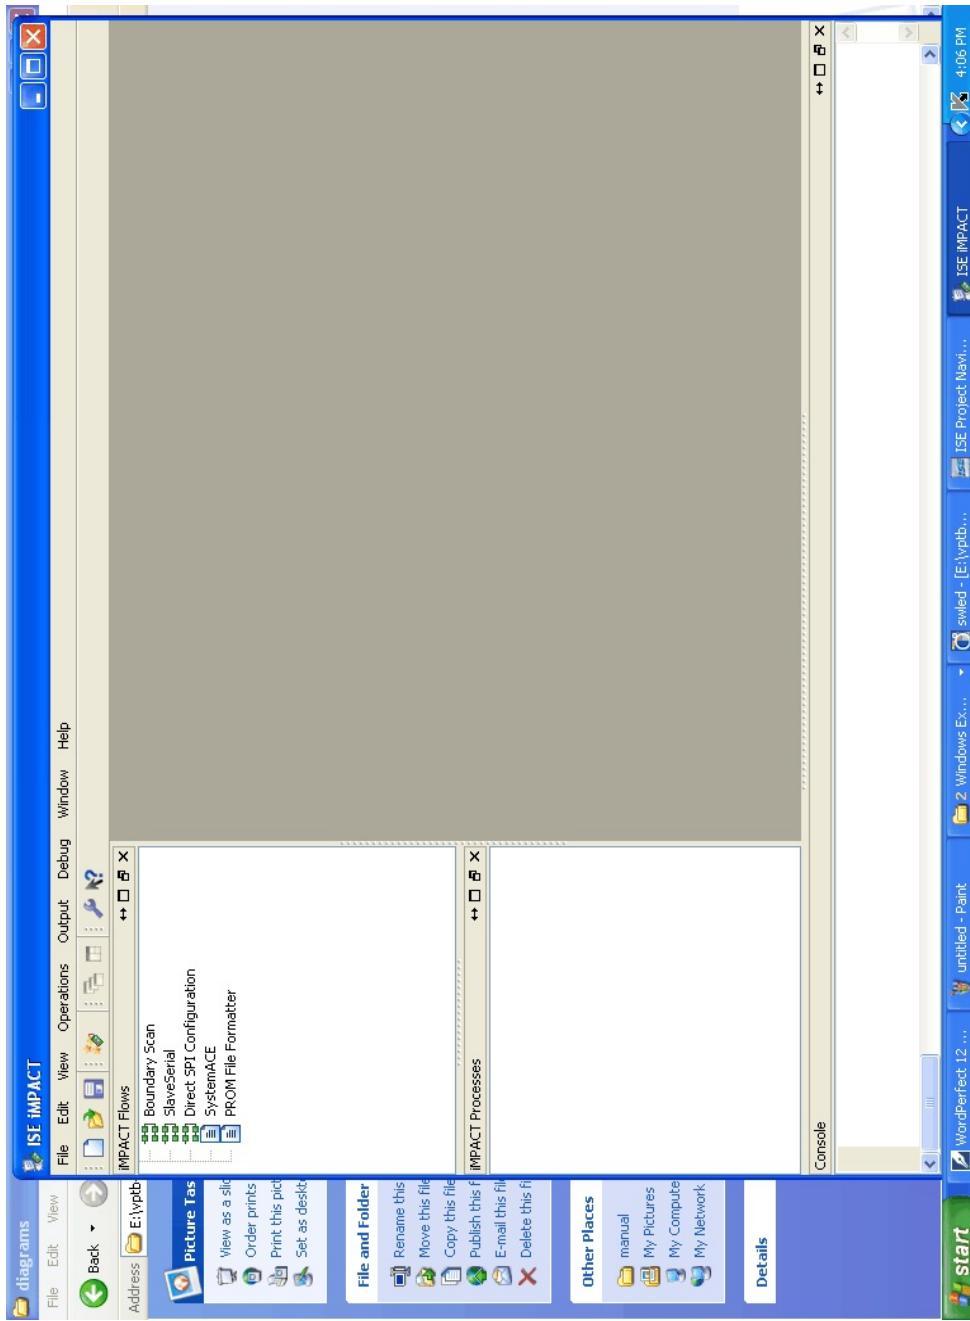
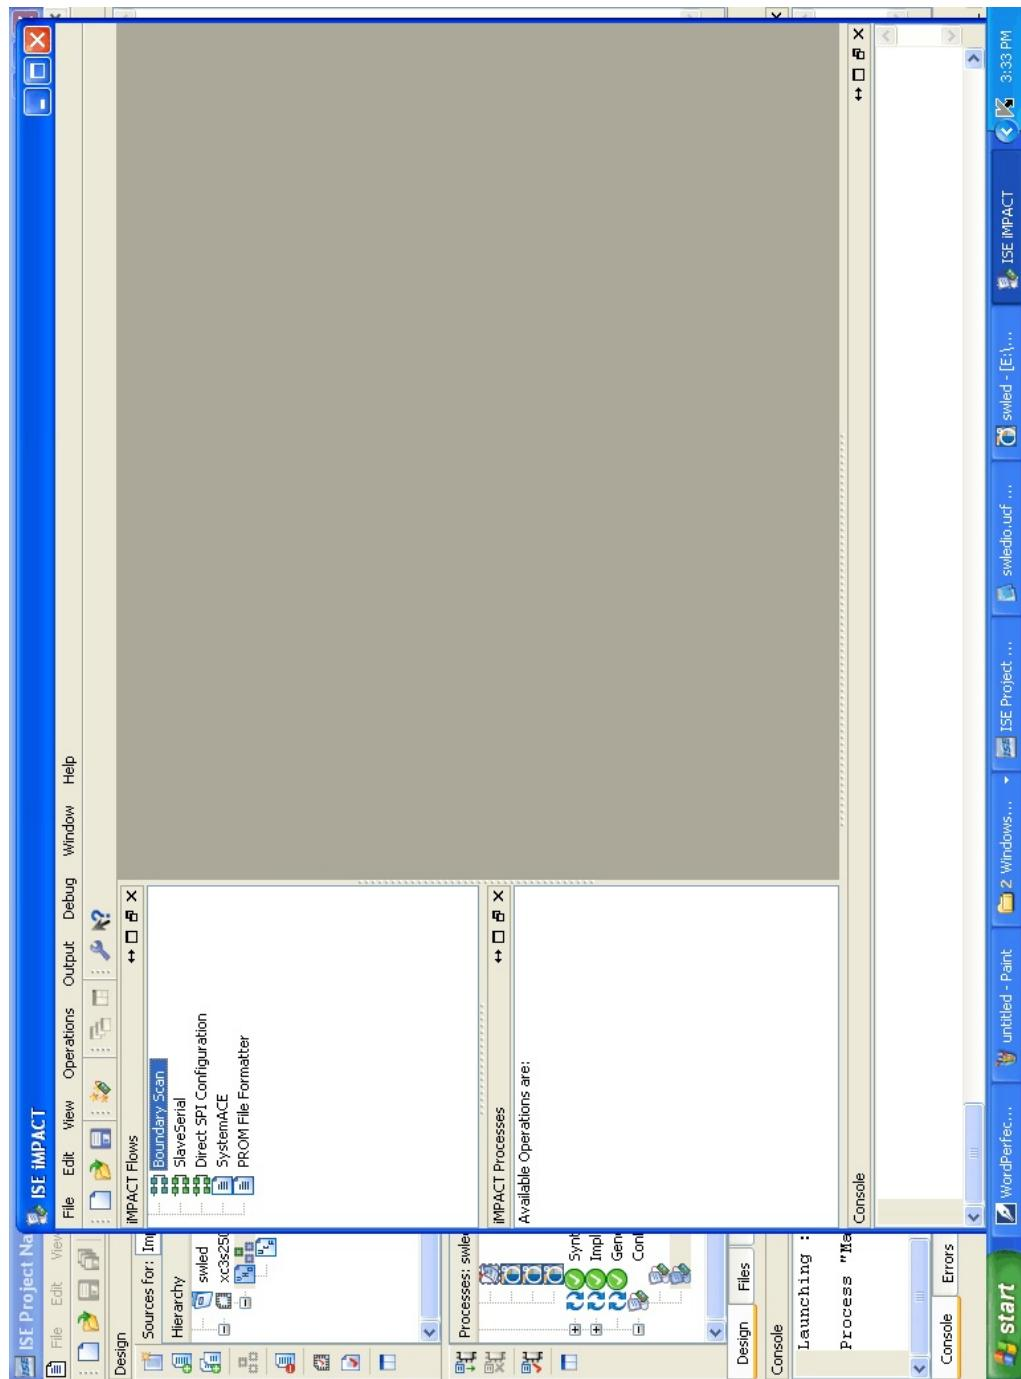
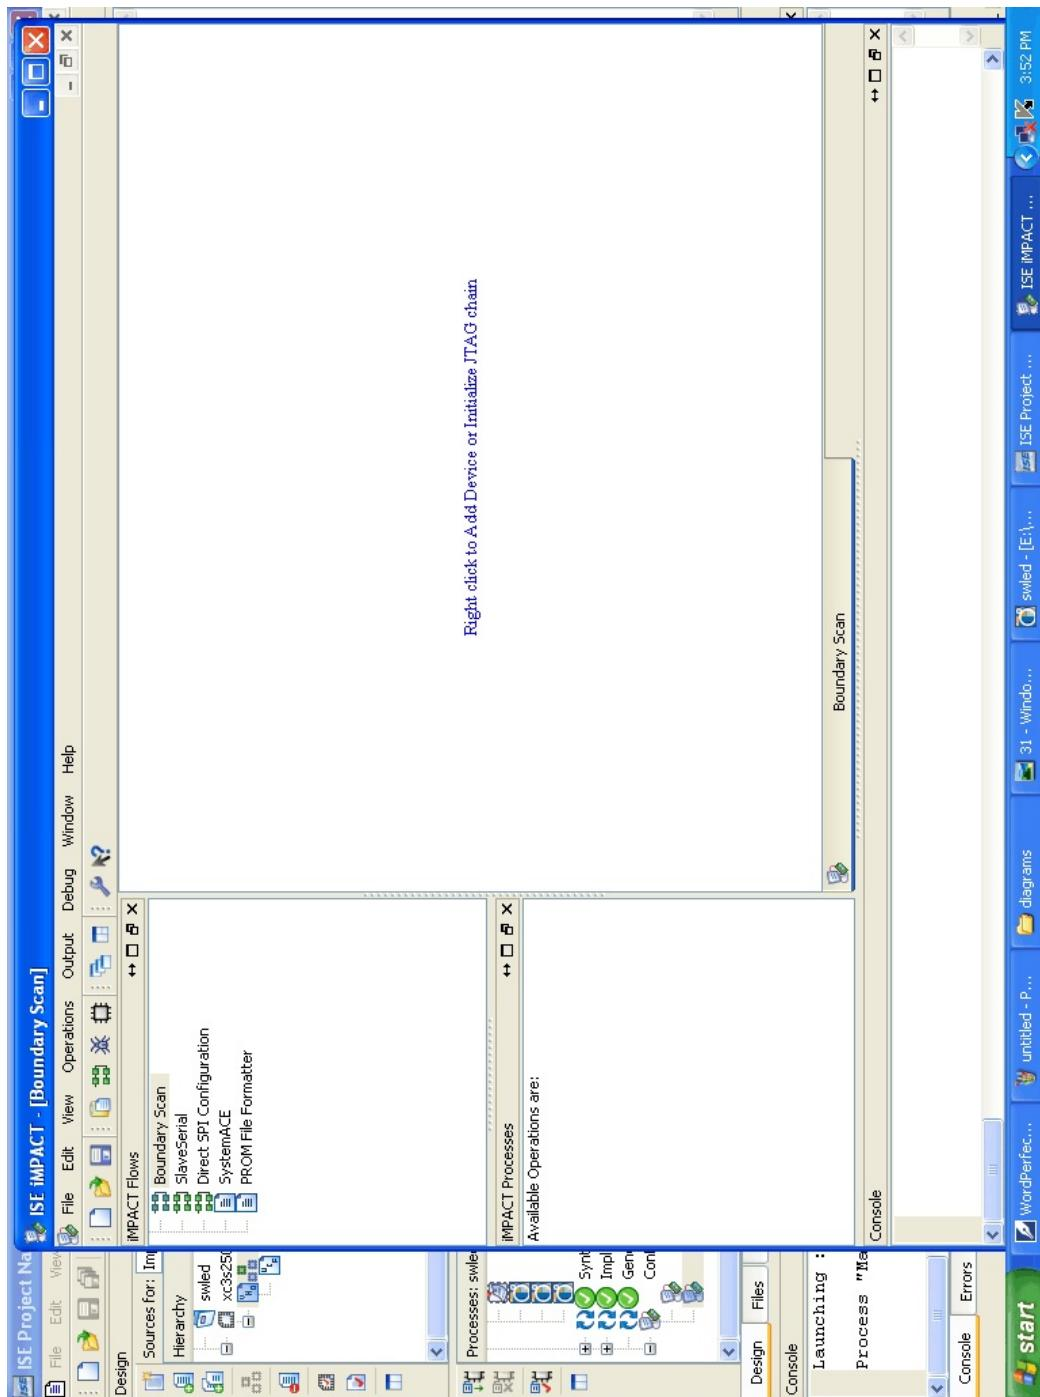
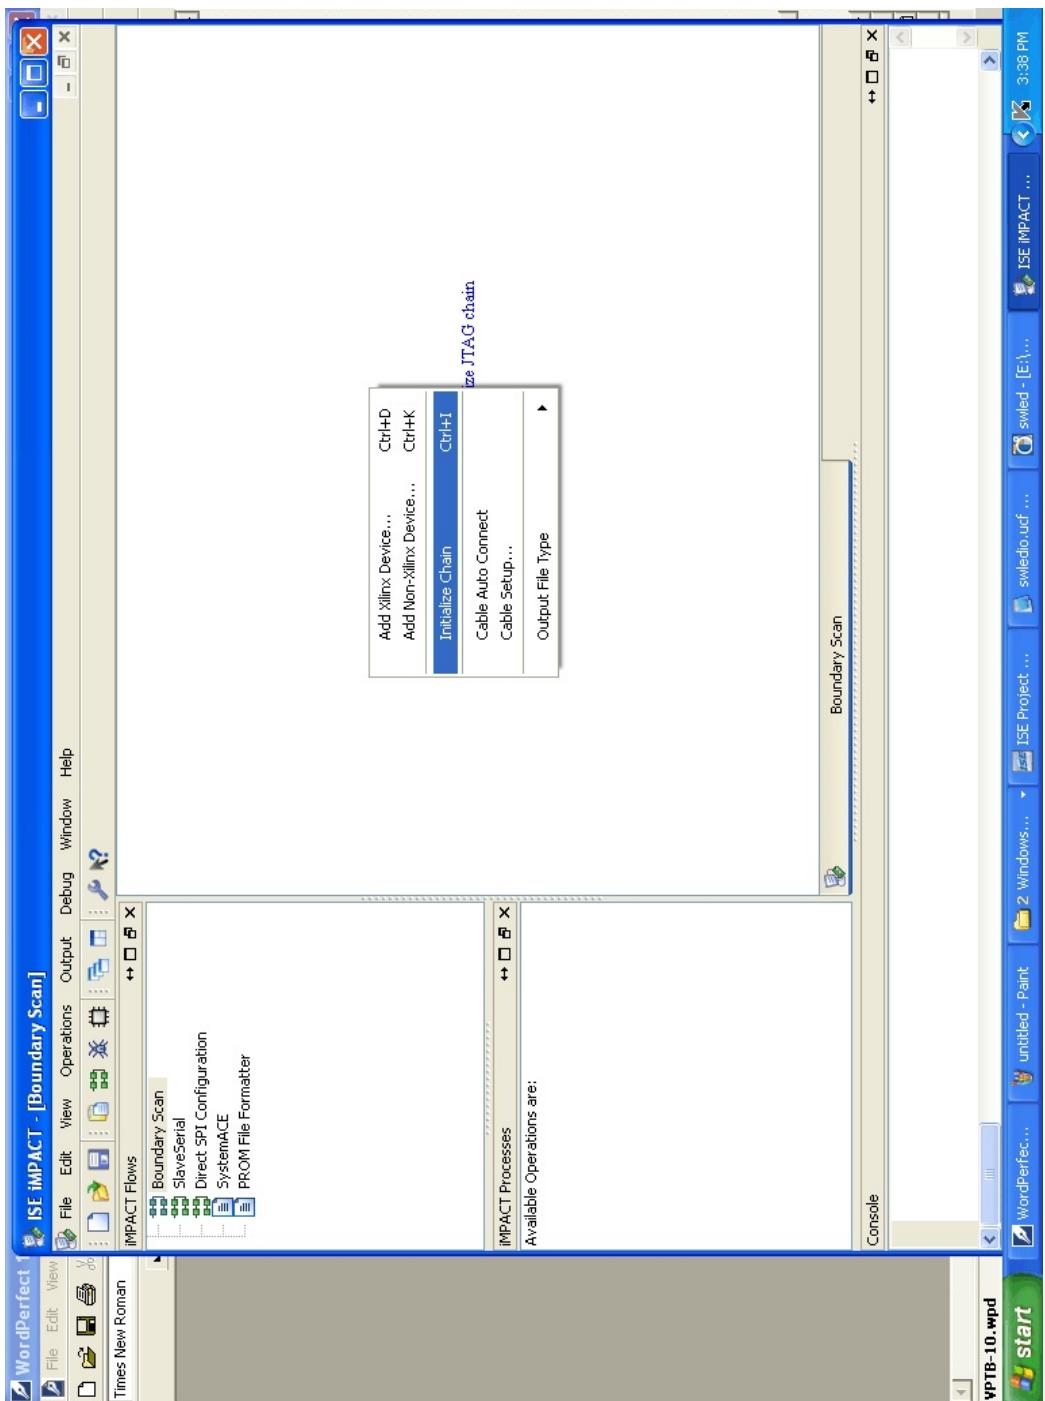

Figure-31
Figure-32
Figure-32a
Figure-32b
11. A new window named **ISE iMPACT** appears as shown in **Figure-31**. In that window under the **iMPACT Flows** category click the Boundary Scan option (refer **Figure-32**). A new tab named **Boundary Scan** appears as shown in **Figure-32a**. Now right click in that tab to select the **Initialize Chain** option from the pop-up menu that appears (refer **Figure-32b**).